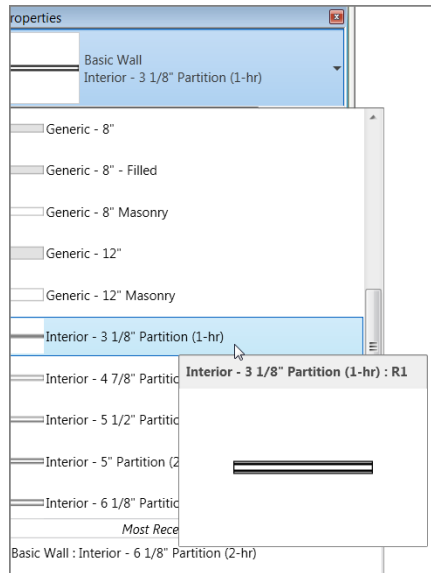

FIGURE 9.27: Basic Wall : Interior - 3 1/8" Partition (1-hr) (79mm)
2. In the Type Selector, select Basic Wall : Interior - 3 1/8" Partition (1-hr) (79mm), as shown in Figure 9.27.